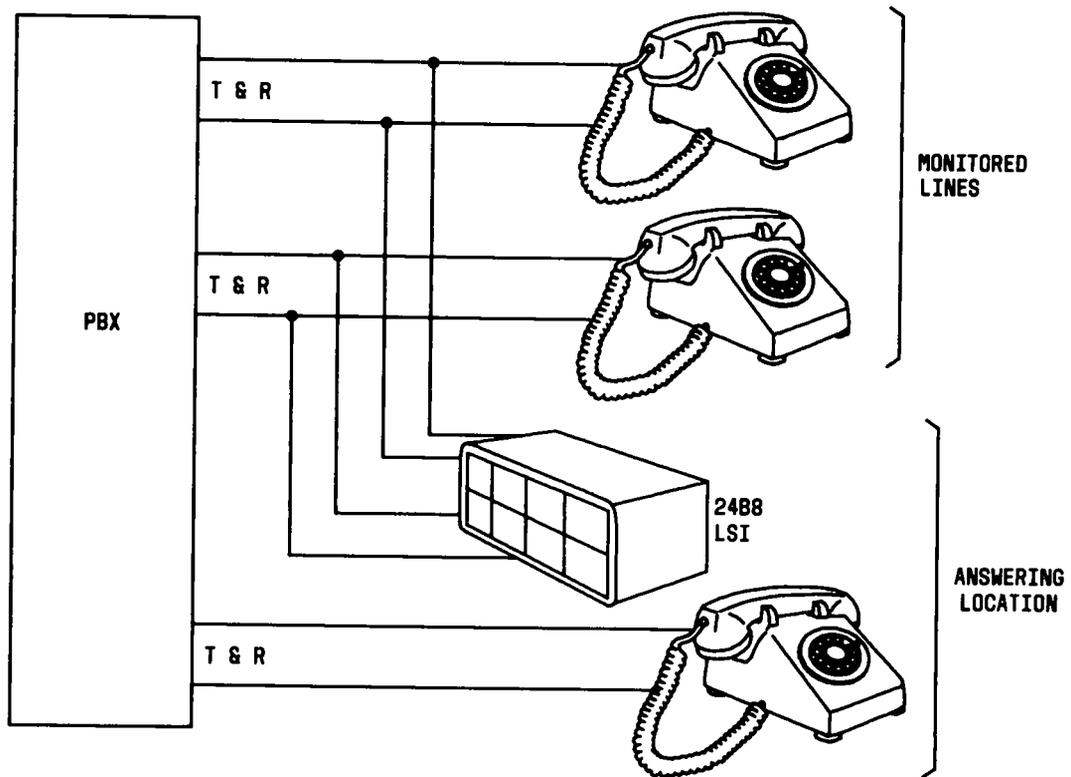

Fig. 30—24A8-50 Line Status Indicator
6.46 The 24B-type line status indicator (LSI) is used to provide a visual status and audible indication of specific station lines (off-hook, on-hook, and ringing). The status of each line is displayed by a corresponding light emitting diode (LED) on the LSI panel. The LSI is available with capacities for monitoring 8, 16, or 32 lines and can be mounted at a desk or on a wall. The LSI is bridged across the T and R leads of the stations to be monitored. A maximum of four 24B-type LSIs can be bridged across the same station line. Figure 30 illustrates the mounting cord terminations for the LSI. The LSI is plugged into a 120-volt 60-Hz ac commercial power source. The A25B connector cable to connect T and R leads of monitored lines must be ordered separately. The following equipment is necessary to supply the 24B-type LSI: